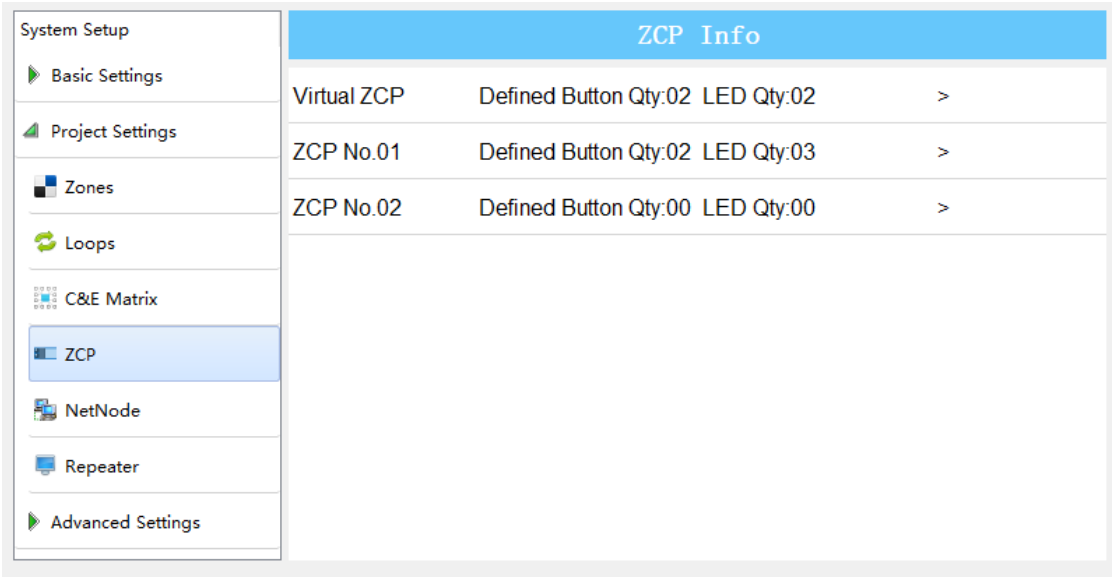

Fig. 4.22
- ZCP: clicking **ZCP** in **Project Settings** menu enters the screen for setting the zone panels. Refer to the figure below Fig. 4.22